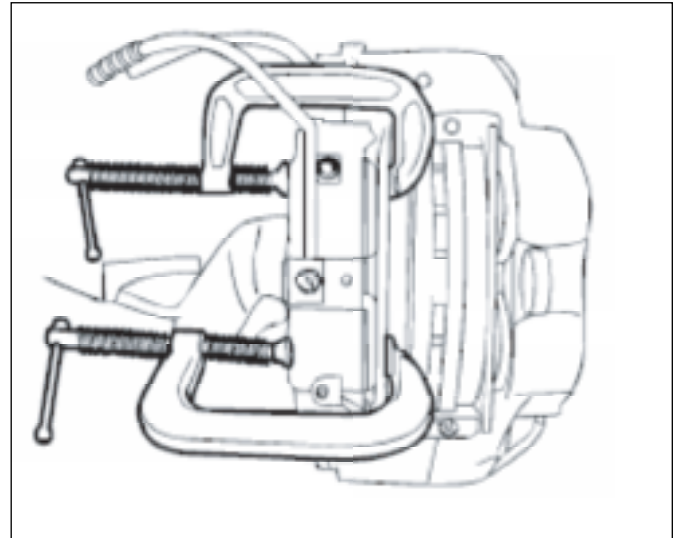

Fig. 5-4. Compress caliper pistons.
5. Compress the caliper pistons, figure 5-4.